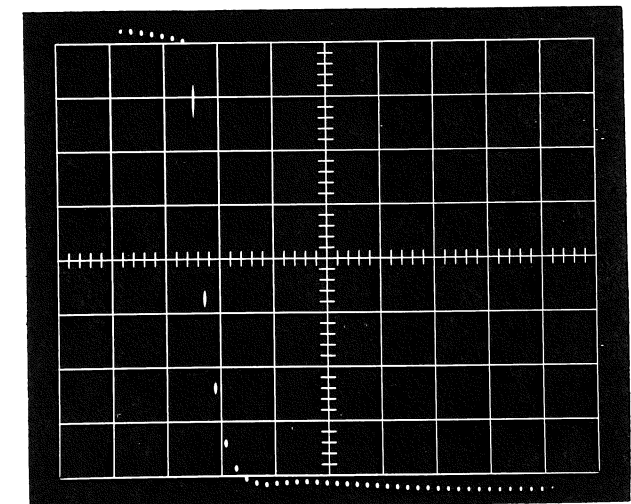

Fig. 5-3. Proper adjustment of SMOOTHING control.
- c. Set the Type 511A SWEEP TIME/CM switch to 1 nSEC. Adjust the Type 453 Channel A SMOOTHING control and the Type 511A TIME POSITION control until the pulse fall has between two and four dots. Do not adjust the SMOOTHING control so far clockwise that the pulse overshoots. See Fig. 5-3.